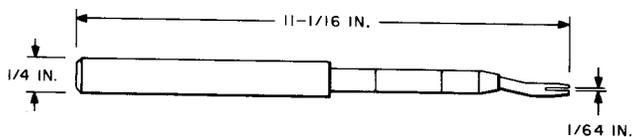

Fig. 4—AECO H-7068-3 Adjuster Tool
**2.04 AECO H-7068-3:** The AECO H-7068-3 tool (Fig. 4) is a bank contact adjuster used on plunger-type line and out-trunk switches.